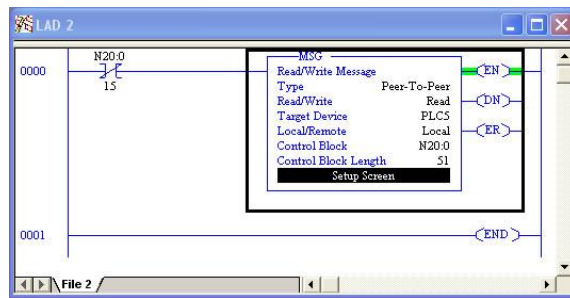

Figure 58: Completed PLC Program
- 7) The program is now complete. Refer to Figure 58.